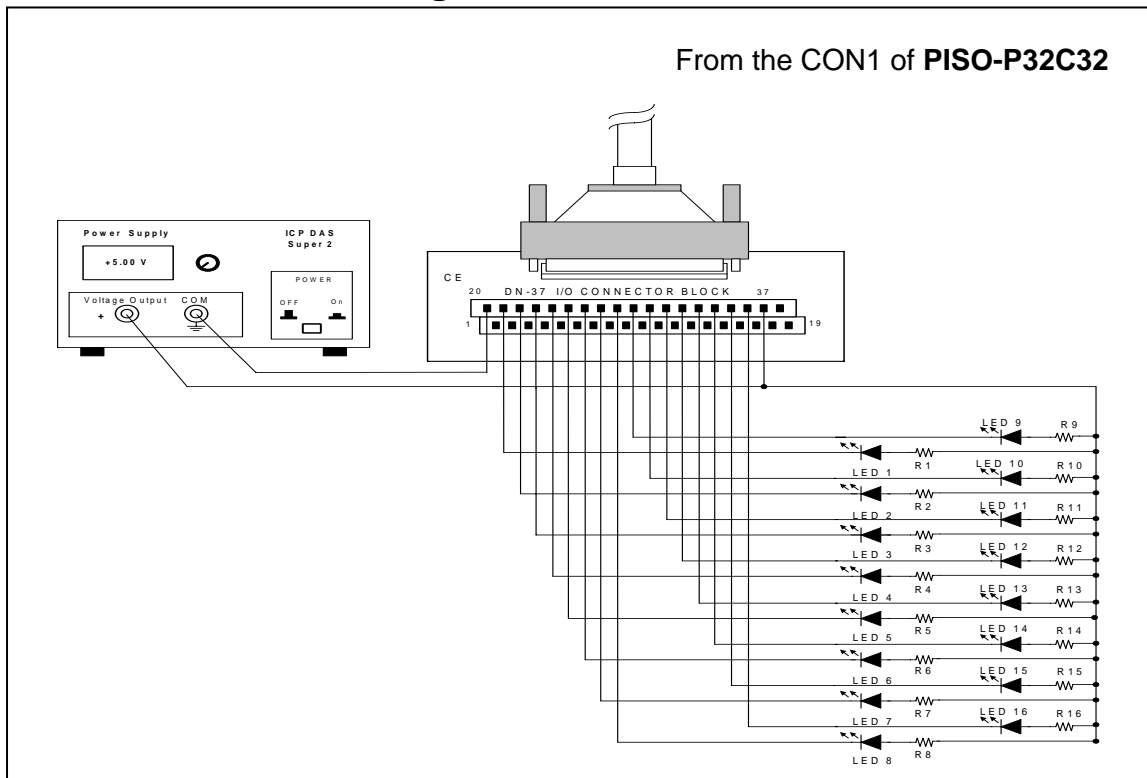

Figure 4-1-2. The circuit diagram of external device 1 for the digital outputs of **PISO-P32C32**
- Figure 4-1-2(PISO-P32C32) shows the circuit diagram of external device 1